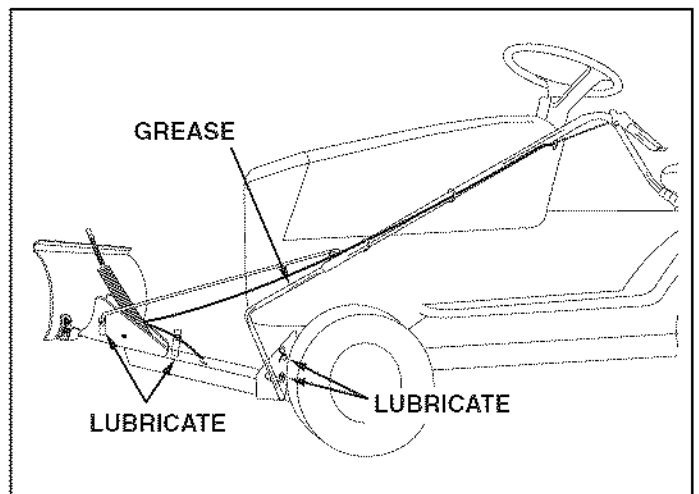

FIGURE 27
- Lubricate all pivot points to help maintain proper operation of blade. Use grease packet furnished with the snow blade for lubrication of the upper portion of the lift handle rod. See figure 27.
- Lubricate all pivot points and all points shown in figure 27, page 15 in the maintenance section.
| Blade is difficult to raise.    | Lift mechanism is binding                                   | Lubricate pivot points as shown in figure 27 on page 15.         |
| Blade is difficult to pivot.    | Handle tube is binding on lift rod.                         | Lubricate lift handle rod as instructed in figure 27 on page 15. |